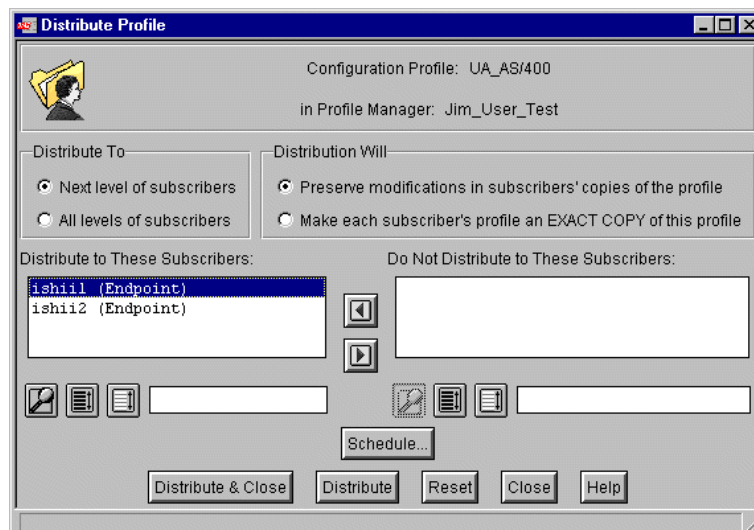

Figure 311. Distributing new AS/400 profiles
10. To create the profiles on our AS/400s, we have to distribute to both machines. Select the **Distribute** option in the Profile menu. Now, in the panel in Figure 311, choose the machines on which the profiles will be created, in this case, ishii1 and ishii2.